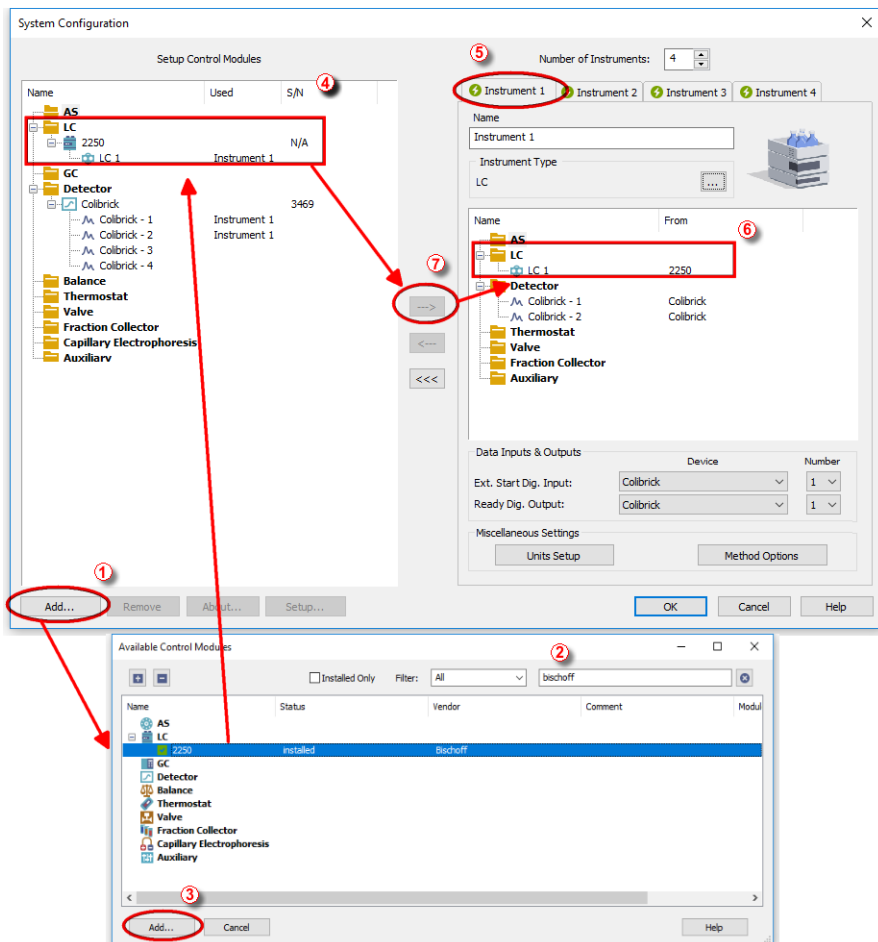

Fig 3: How to add Bischoff 2250
- Press the **Add** button ① (see Fig 3 on pg 4.) to invoke the **Available Control Modules** dialog.
- You can specify the searching filter ② to simplify the finding of the driver.
- Select the **2250** pump and press the **Add** ③ button.